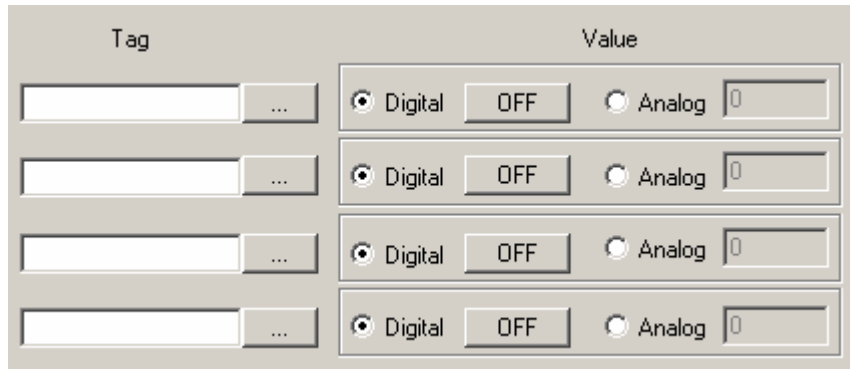

Figure 4-13 Dialog box “Write Tag Value”
- **Write Tag Value:** It is used to input values to several tags at one time, and the “Write Tag Value” dialog box is shown in Figure 4-13. Click the  button and select the tag name to be written value and corresponding “Value” type (including Digital and Analog) of the tag. When it is Digital, the setting is achieved by clicking the ON/OFF button on the right; when it is Analog, the value to be set can be written in directly. Values of these tags will be modified after clicking the graphics object in supervision.